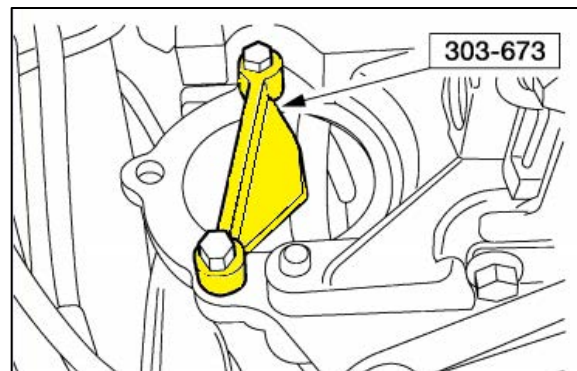

Figure 1
- Install flywheel lock tool 303-673 using two (2) starter bolts. (Figure 1)
- Install PTO assembly (Figure 1)
- Install one (1) upper left 13mm capscrew, leave loose.
- Install two (2) lower 15mm nuts, leave loose.
- Install one (1) 14mm Allen bolt ****LEFT HANDED THREAD****